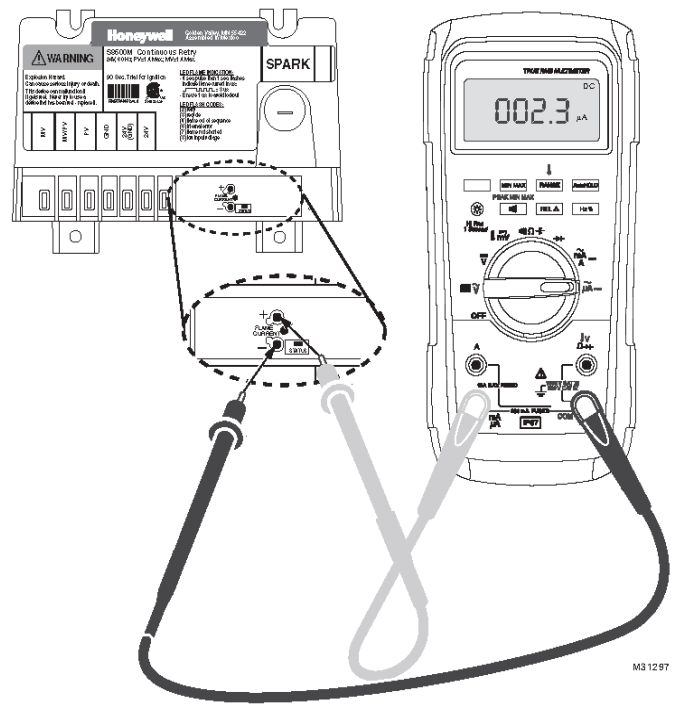

Figure 8-4: Measuring Pilot Flame Current with Micro-ammeter
- Pilot flame current in micro amps can be measured using any standard micro-ammeter by inserting meter probes into module hole labeled FLAME CURRENT as shown in Figure 8-4.